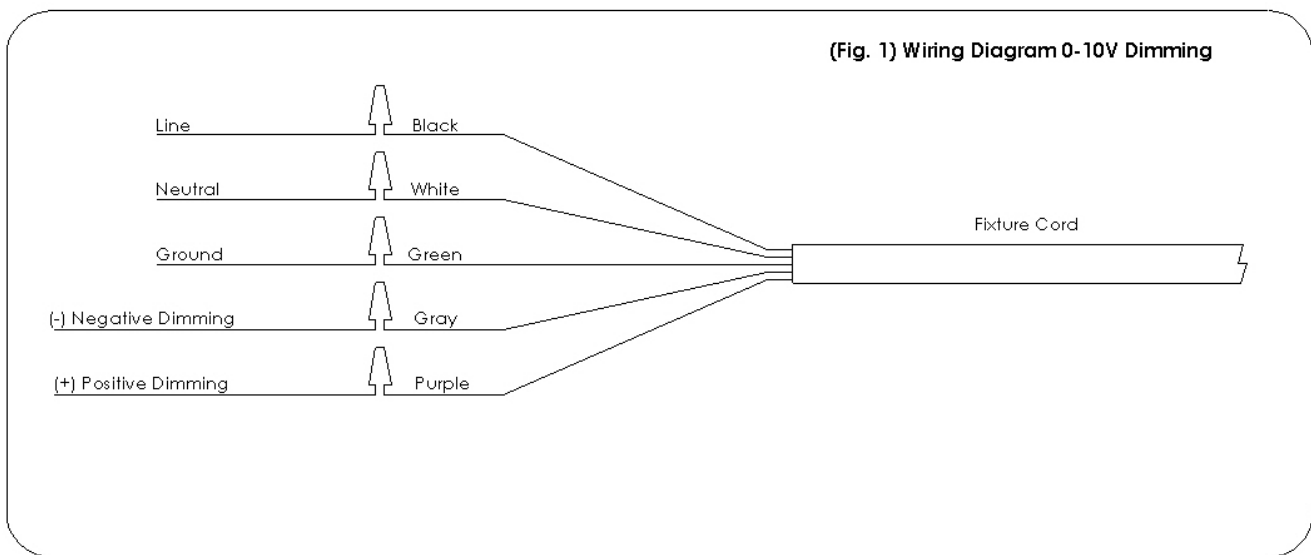

Fig. 1
3. If fixture is not fitted with existing plug, connect fixture wiring to line wires. Use only UL listed wiring devices. Ref (Fig. 1) for wiring. Purple and Gray leads are used for 0-10V dimming ONLY. Cap wires if not used.
3. Attach **Starter Fixture** to structure. Connect **Starter Fixture** wiring to line wire. Use only UL listed wiring devices. Ref (Wiring Diagram, Fig. 1 pg. 3). Mains wiring inside fixtures is rated 14 AWG. Mains wiring connected by installer must be rated for the load per (NEC) National Electric Code and/or local electric code.